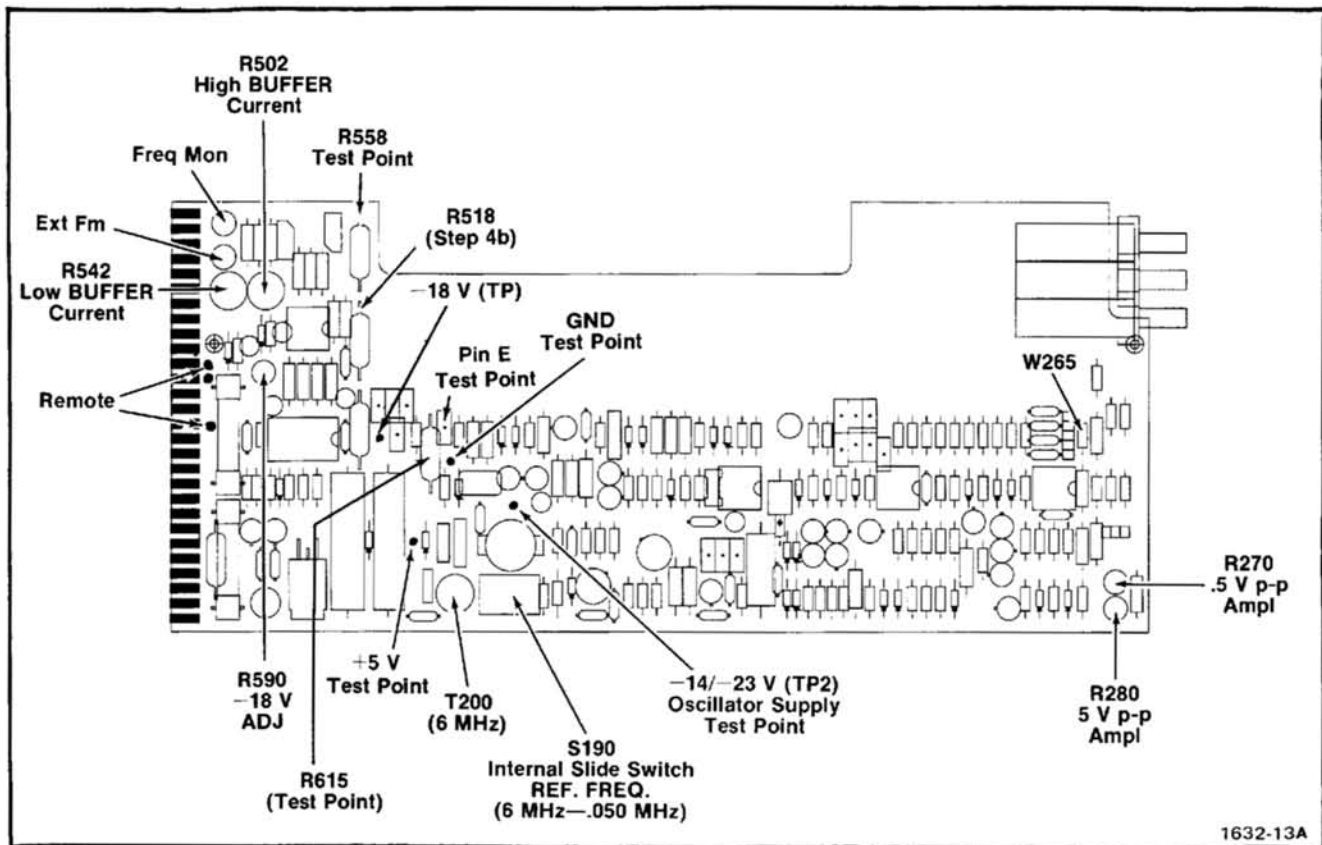
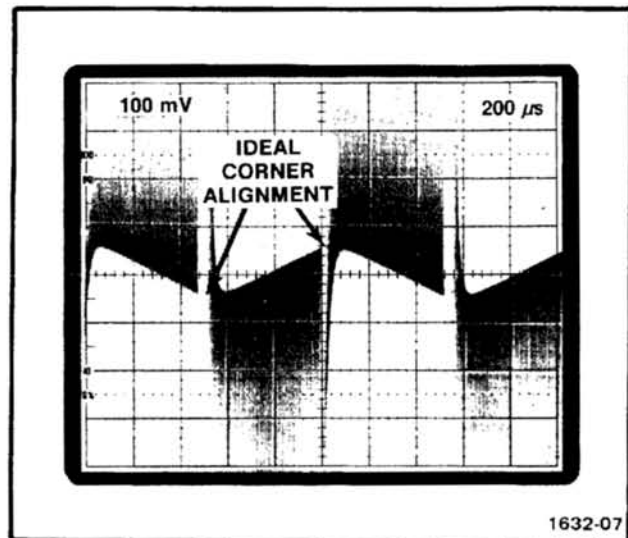
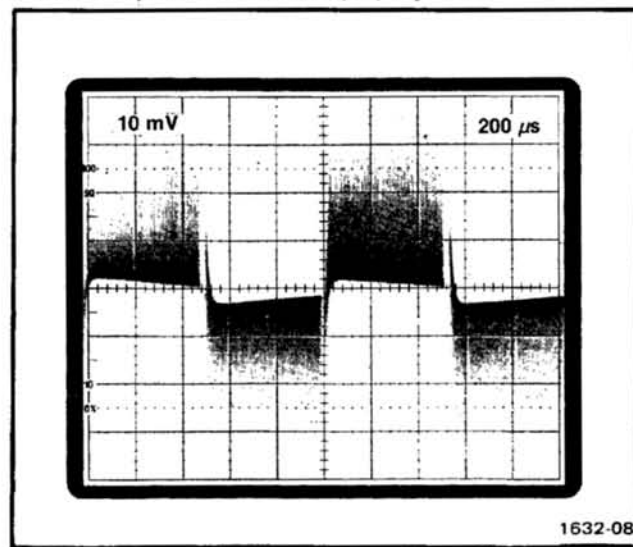

Fig. 3-1. Location of test points, connectors, and adjustments on main circuit board.
Fig. 3-2. Display of complex waveform (idealized) with 5 volt reference amplitude at 0.05 MHz, properly set.
Fig. 3-3. Display of complex waveform (idealized) with 0.5 volt reference amplitude at 0.05 MHz, properly set.
a. Connect the digital voltmeter between the -18 V test point and Gnd test point on the Main circuit board. See Fig. 3-1 for voltage test point location.
c. Adjust—-18 V adj, R590, for a meter reading of 18 volts. See Fig. 3-1 for adjustment location.
a. Connect the digital voltmeter between the +5 V test point and Gnd test point on the Main circuit board. See Fig. 3-1 for voltage test point location.
a. Connect the digital voltmeter between the -14/-23 V (TP2) test point and Gnd test point on the Main circuit board. See Fig. 3-1 for voltage test point location.
a. Connect the digital voltmeter across R615. See Fig. 3-1 for location.
b. Connect a $330\ \Omega$, 1 W resistor between the $-14/-23$ V (TP2) testpoint and Gnd test point on the Main circuit board. See Fig. 3-1 for location.
a. Connect the digital voltmeter between Pin E test point and Gnd test point on the Main circuit board. See Fig. 3-1 for location.
f. Set the SG 504 internal slide switch, S190, to the 6 MHz position. See Fig. 3-1 for switch location.
d. Set the time-base triggering controls for a stable display; a crt display similar to Fig. 3-2 is obtained.
e. Adjust—5 V P-P Ampl. R280, so the corners of the idealized waveform are aligned as illustrated in Fig. 3-2. See Fig. 3-1 for adjustment location.
i. Set the time-base triggering controls for a stable display; a crt display similar to Fig. 3-3 is obtained.
j. Adjust—.5 V P-P Ampl, R270, so the corners of the idealized waveform are aligned as illustrated in Fig. 3-3. See Fig. 3-1 for adjustment location.
g. Connect the digital voltmeter between R558 test point (top of resistor) and Gnd test point on the Main circuit board. See Fig. 3-1 for test point location.
i. Disconnect the positive lead of the digital voltmeter from R558 test point and connect it to $-14/-23$ V (TP2) test point. See Fig. 3-1 for test point location.
f. Connect the digital voltmeter between R518 test point (top of resistor) and Gnd test point on the Main circuit board. See Fig. 3-1 for test point location.
k. Disconnect the positive lead of the digital voltmeter from R518 test point and connect it to -14/-23 V (TP2) test point. See Fig. 3-1 for test point location.
o. Disconnect the digital voltmeter and reconnect it across R615. See Fig. 3-1 for location.